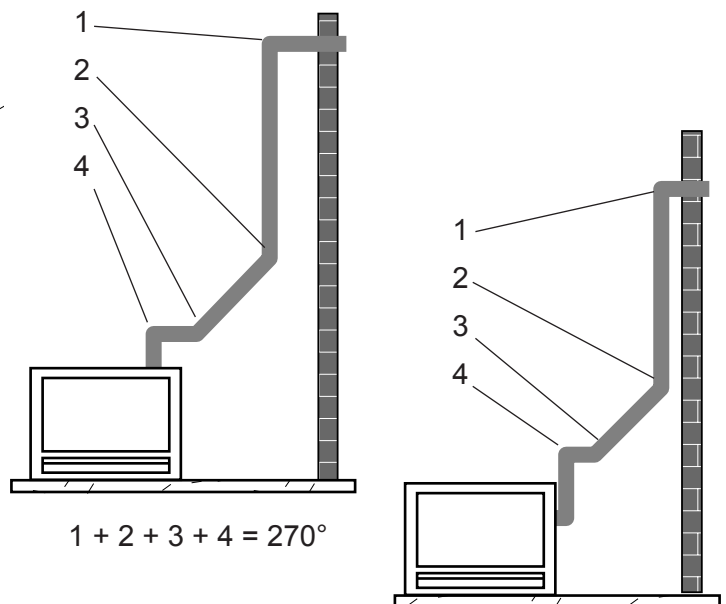

Figure 30 - Maximum Elbow Usage
- The maximum number of 45° elbows permitted per side wall installation is two (2). These elbows can be installed in either the vertical or horizontal run.
- The maximum number of elbow degrees in a system is 270°. See Figure 30.
2. Remove soil to a depth of approximately 16" below base of snorkel. Install drain pipe. Install window well (not supplied). Refill hole with 12" of coarse gravel leaving a clearance of approximately 4" below snorkel. *See Figure 30.*